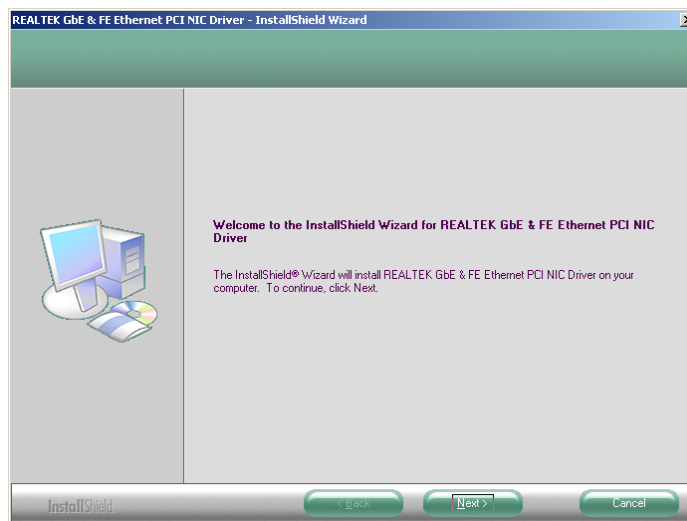

Figure 7-35: RTL8110SC InstallShield Wizard Welcome Screen
Step 11: Once initialized, the InstallShield Wizard welcome screen appears (Figure 7-35).